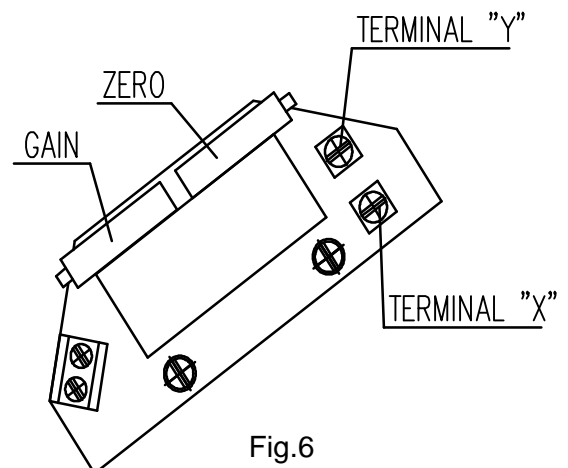

Fig.6
4.4.1 EPV – the 2-wire version (Fig. 6)
- Adjust the resistive transmitter according to the previous chapter. The resistance is to be metered on the terminals X-Y (Fig. 6). The used transmitter resistance is 100 Ω .
- Turn the adjusting trimmer ZERO (Fig. 6) to adjust the output current signal rate measured on the terminals 81-82 to 4mA.
- Turn the adjusting trimmer GAIN (Fig. 6) to adjust the output current signal rate measured on the terminals 81-82 to 20mA.
- Adjust the resistive transmitter according to the previous chapter. The resistance is to be metered on the terminals X-Y (Fig. 6).
- Adjust the resistive transmitter according to the previous chapter. The resistance is to be metered on the terminals X-Y (Fig. 6). The used transmitter resistance is 2000 Ω or 100 Ω .